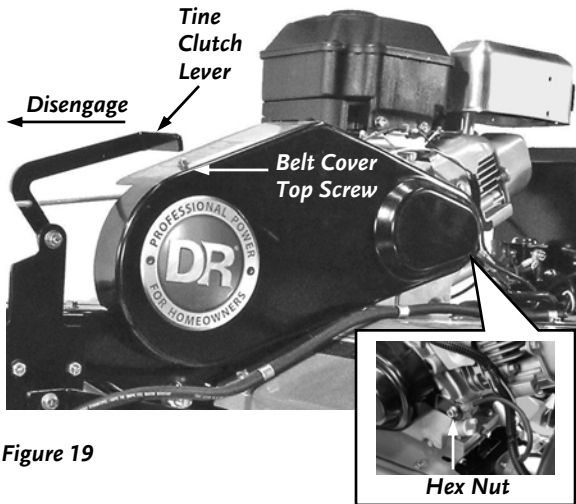

Figure 19
1. Remove the Screw from the top of the Belt Guard (**Figure 19**).